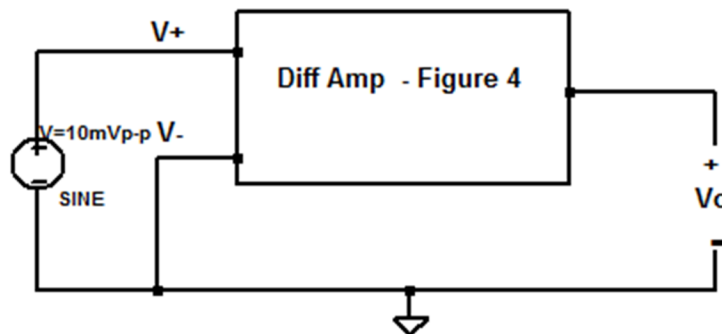

Figure 6. Measurement set-up for Differential Mode voltage gain
3. Differential mode voltage gain A_d is measured using Figure 6, where - input terminal is connected to ground and a small, $\sim 10\text{mV}$ peak to peak sinusoidal signal is connected to + input terminal. Make sure that there is no distortion at the output. Measure input and output voltages (AC coupling) and then calculate differential mode as $A_d = V_o/V_{in}$